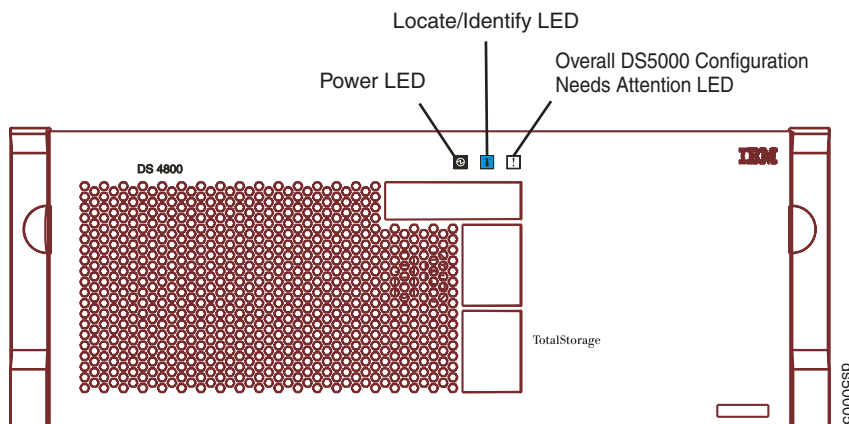

Figure 131. Overall Configuration Needs Attention LED on the DS5100 or DS5300 front bezel
1. Locate the failed interconnect-battery unit by checking the Overall Configuration Needs Attention LED on the front bezel of the storage subsystem. (Figure 131 shows the location of the Overall Configuration Needs Attention LED on the front bezel.)